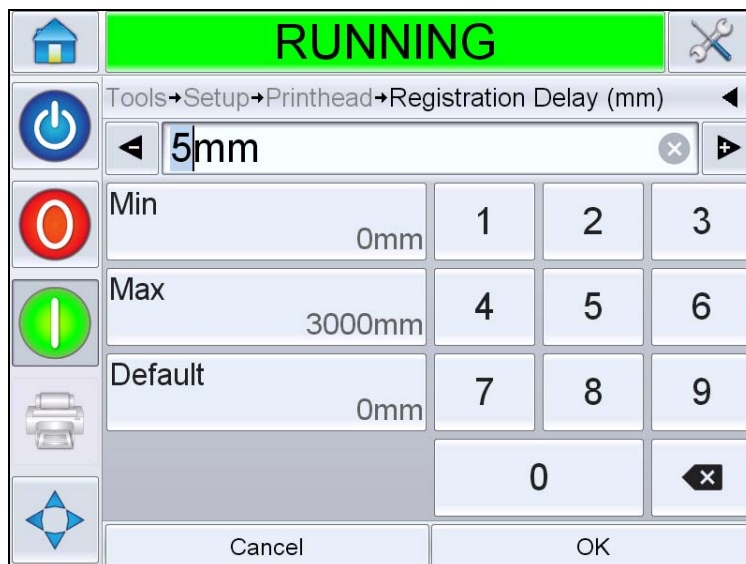

Figure 5-22: Print Registration
- 2 Input the required *Registration Delay*. Alternately, use the + or - buttons (Figure 5-22) to make small adjustments in the parameter value.